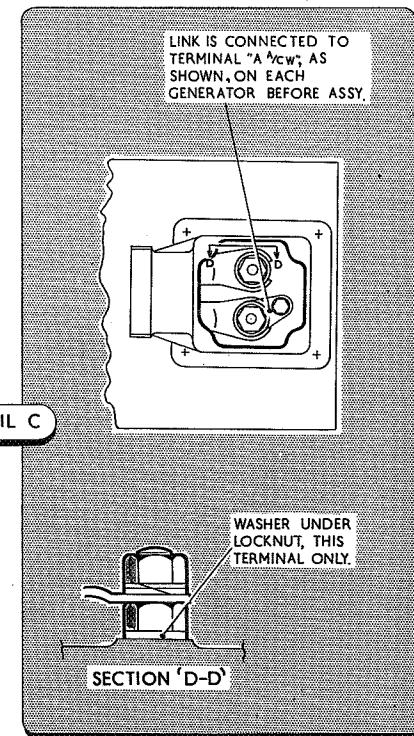

Fig.2 Accessories gearbox
Accessories gearbox (fig. 2)
24. If the engine is already out of the airframe, the accessories gearbox should be installed first. Prior to installation, the gearbox should be filled with oil (*Sect. 2, Chap. 2*) and, after the initial engine run, the oil level should be checked and if necessary topped up. When installing the gearbox fit the six bolts securing the gearbox to the rear spar taking care to fit the distance piece Part No. F.209992 to the top bolt on the starboard side between the gearbox and the rear spar. Tighten the six bolts evenly and when tight lock with the tab washers. Then fit the mounting block (*detail A, fig. 2*) on the mounting trunnion at the top of the gearbox casing and the eye and fork end assembly (*detail B, fig. 2*) to the bottom of the gearbox and the fuselage stringer. The clearances between the components at these top and bottom attachments are taken up by fitting the washers shown in fig. 2 details A and B. Prior to connecting the drive shaft coupling lightly grease the splines with grease XG-271. Before fitting an accessory, examine the quill drive for general condition and that it is an easy sliding fit on the accessory serrations. Immerse the quill in gearbox oil prior to refitting to the gearbox. Lubricate the serrated shaft of the accessory with gearbox oil. When new generators are to be fitted reference must be made to the assembly note contained in fig.2.